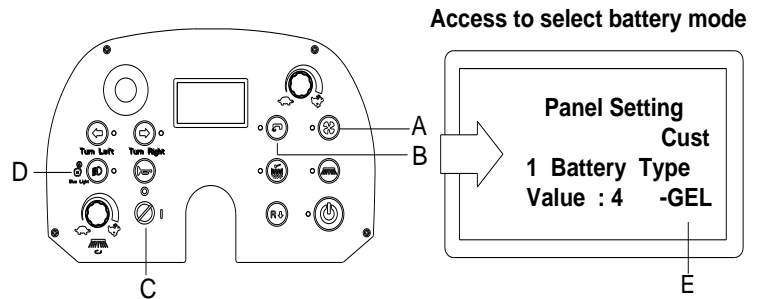

Figure 8
1. Press vacuum button (A, Figure 8) and pump button (B, Figure 8) at the same time.
2. Insert ignition key (C, Figure 8) and turn it to "I".
3. Several seconds later the system enters select battery mode (Figure 8).
4. Release both vacuum button (A, Figure 8) and pump button (B, Figure 8).
5. Press vacuum button (A, Figure 8) or pump button (B, Figure 8) to select battery type (E, Figure 8).
6. Press headlight button (D, Figure 8), about 1 second later the screen displays "Update OK", indicating that battery type is set up, then restart machine. (C, Figure8).